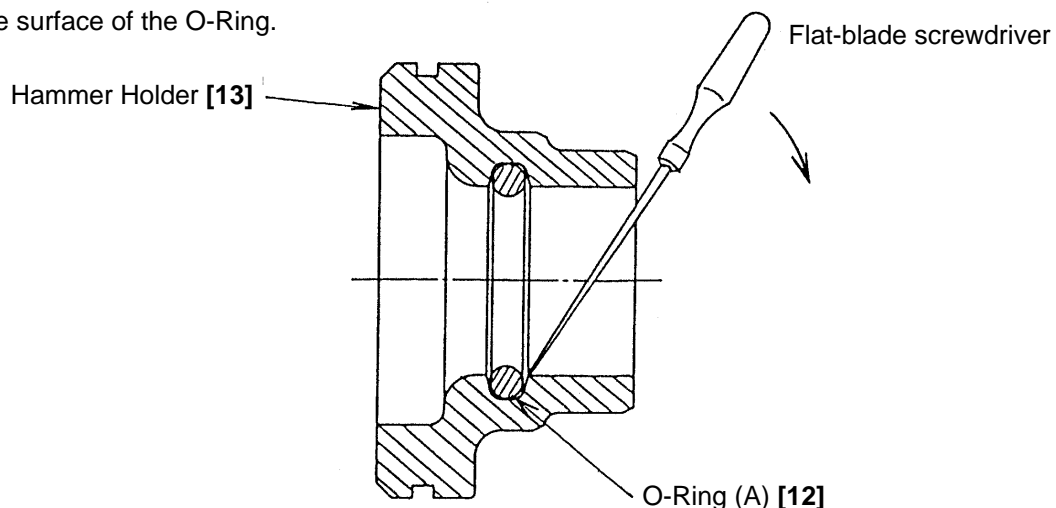

Fig. 15
- Removal of O-Ring (A) [12]
As O-Ring (A) [12] is installed in the inner portion of the Hammer Holder [13], it may be difficult to remove. As illustrated in Fig. 15, pry O-Ring (A) upward gently with a small flat-blade screwdriver, being very careful not to damage the surface of the O-Ring.